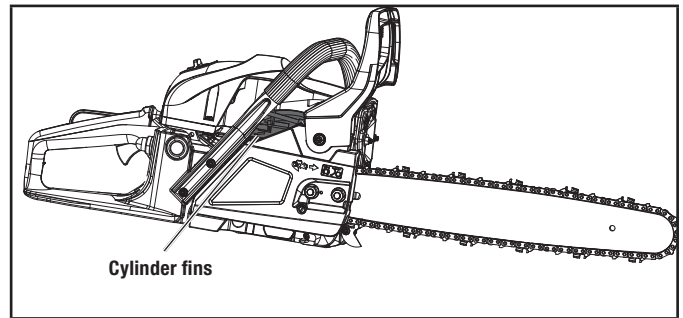

Figure 46
- Use compressed air, up to 40 PSI, to blow debris from the cylinder fins (Fig. 46). The cylinder fins must be cleaned on a regular basis to reduce the risk of personal injury or damage to the chainsaw as a result of fire. Always use safety goggles/glasses when using compressed air. Do not use water or other liquids to clean the cylinder fins. Use a small wire brush to remove stubborn debris.